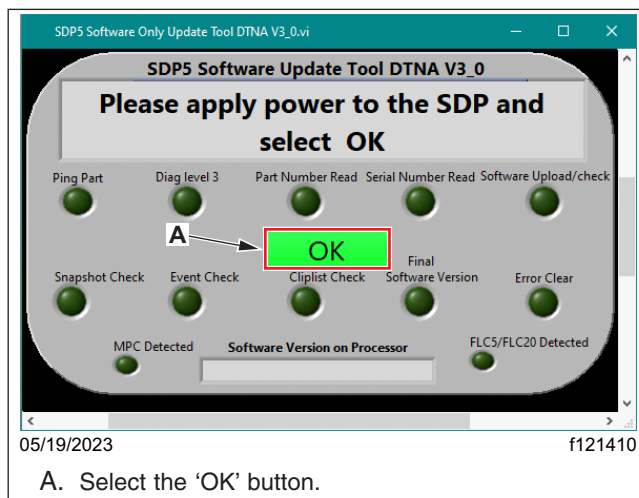

Fig. 22, Beginning to Communicate with the SDP5
10. Select the 'OK' button to begin communication with the SDP5. See Fig. 22.